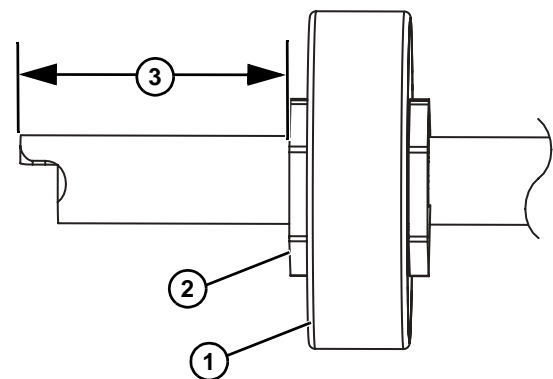

Figure 18
When assembling pucks (Figure 18, item 1) with retaining plates (Figure 18, item 2), make certain that there is a minimum of 38 mm (1.5") of clearance (Figure 18, item 3) on each end.